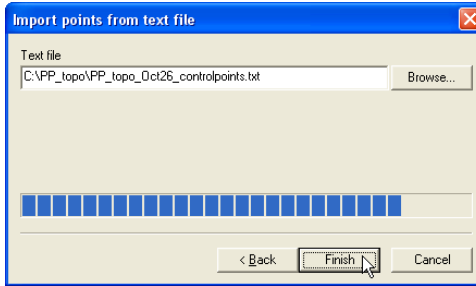

Figure 9-4. Open Control Point Text File
- Click **Finish** to import the control points (Figure 9-4). The information from the selected file is added to the 3D Project file.